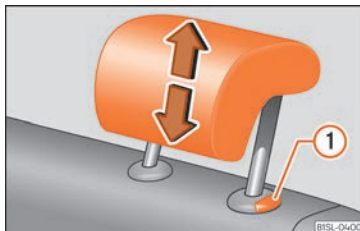

Fig. 93 Rear headrest: adjusting the headrest.
- Move the headrest up or down in the direction of the corresponding arrow. Press button »» Fig. 93 ① to lower them »» ⚠ in Introduction on page 92.
- Press button »» Fig. 93 ① and fully remove the headrest.